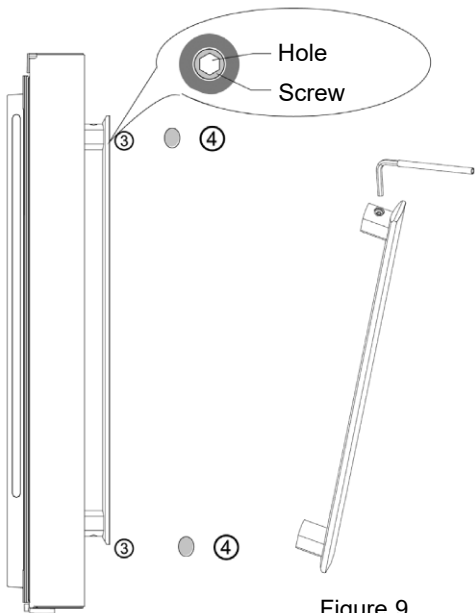

Figure 9
2. Place the handle on the door using bolt (1) and make sure the handle contacts the door surface closely. See Figure 9.
3. Fix the handle by rotating the handle screw (3) to the end, then shake the handle to verify that it is firmly fixed.
4. Place the cap (4) on the handle screw hole to complete this installation.